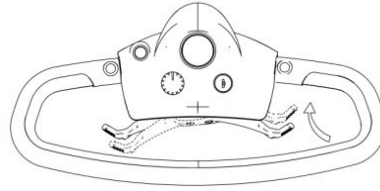

Figure 7.2
- To move backward, press the left side of the throttle lever downward. The greater the angle, the faster the scooter will reverse (Figure 7.2).